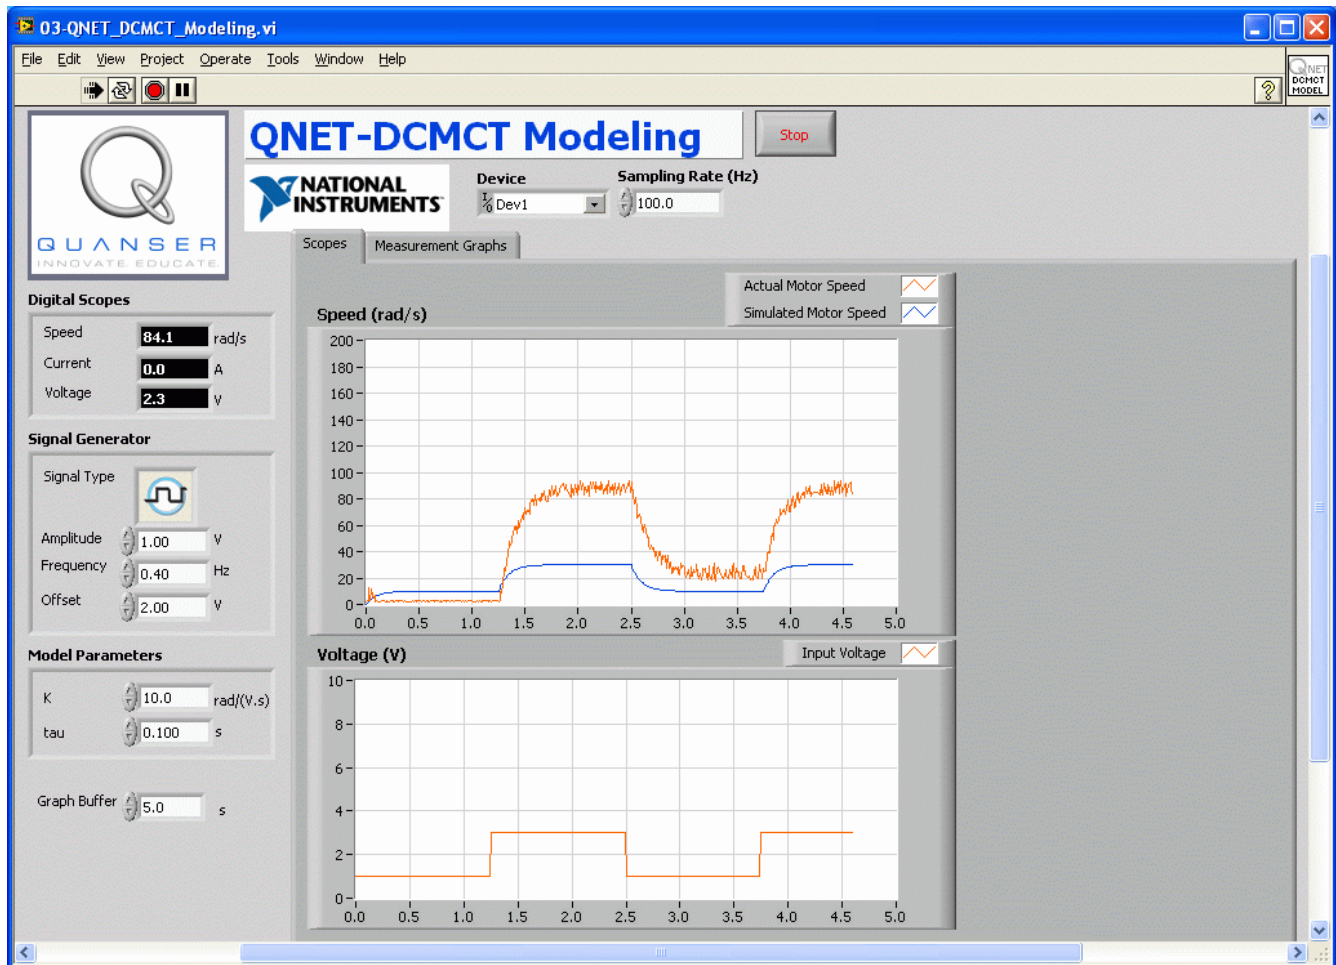
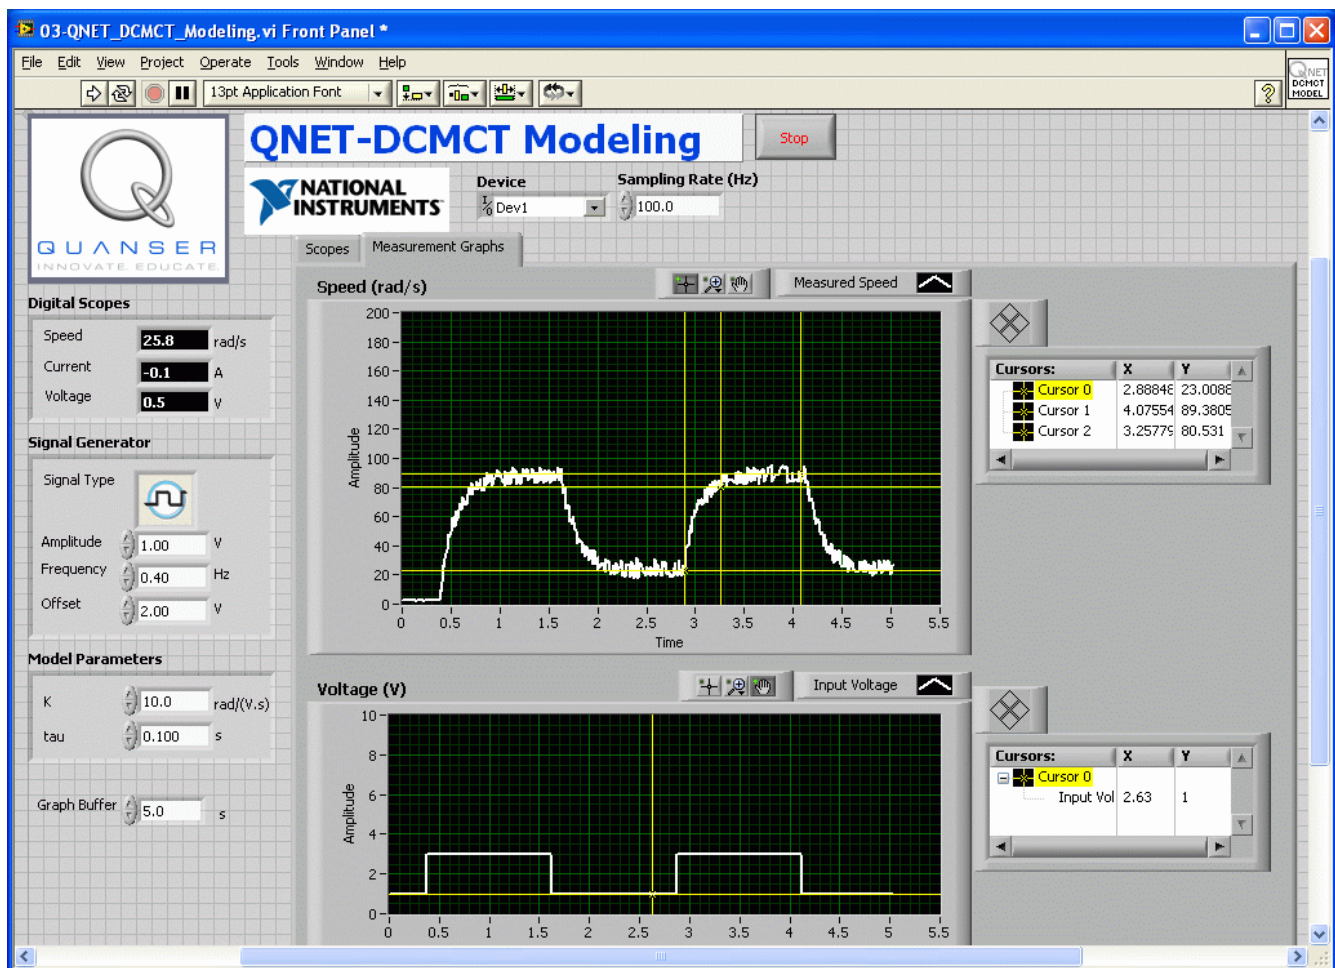

Figure 7: QNET DCMCT Modeling VI running.
Figure 8: QNET DCMCT Modeling VI: sample response in Measurement Graphs.
3. Run the QNET\_DCMCT\_Modeling.vi. The DC motor should begin spinning and the scopes on the VI should appear similarly as shown in Figure 7.
6. **Exercise 1:** Attach the responses in the *Speed (rad/s)* and *Voltage (V)* graphs. See the QNET User Manual for information on how to export a chart or graph to the clipboard.
7. Select the *Measurement Graphs* tab to view the measured response, similarly as depicted in Figure 8.
8. **Exercise 2:** Use the responses in the *Speed (rad/s)* and *Voltage (V)* graphs to compute the steady-state gain of the DC motor. Make sure you fill out Table 5. See the *Bump test Method* section in the QNET Practical Control Guide for details on how to find the steady-state gain from a step response. Finally, you can use the *Graph Palette* for zooming functions and the *Cursor Palette* to measure data. See the LabVIEW help for more information on these tools.
3. Run the QNET\_DCMCT\_Modeling.vi. You should hear the DC motor begin running and the scopes on the VI should appear similarity as shown in Figure 7.
6. **Exercise 4:** Attach the *Speed (rad/s)* and *Voltage (V)* chart responses from the *Scopes* tab. How well does your model represent the actual system? If they do not match, name one possible source for this discrepancy.